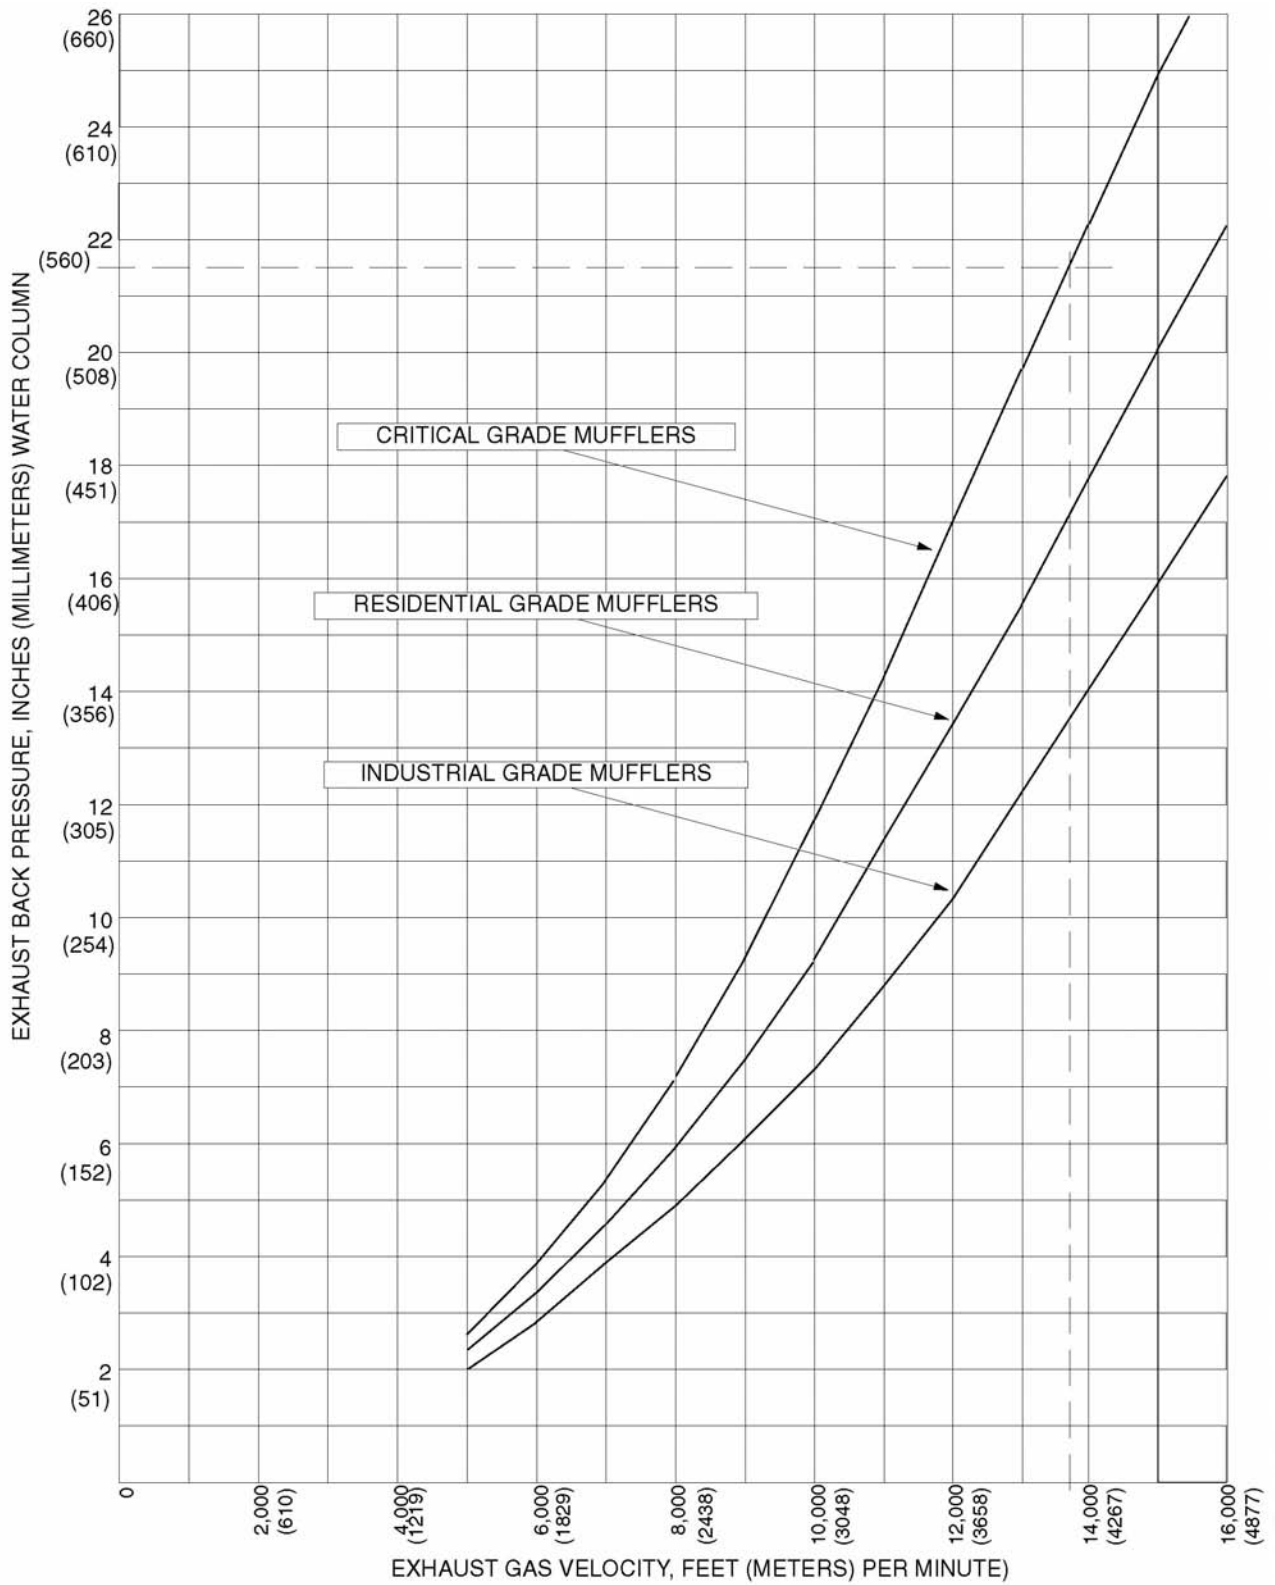

FIGURE 60. TYPICAL MUFFLER EXHAUST BACK PRESSURE VS. GAS VELOCITY
1. Determine the exhaust backpressure caused by the muffler. Figure 60 on page 132 is a graph of typical muffler exhaust backpressures. For more accurate calculations obtain data from the muffler manufacturer. To use Figure 60 on page 132:
- d. Using Figure 60 on page 132, determine the back pressure caused by this flow in the specific muffler used. In this example, the dashed lines in Figure 60 on page 132 show that the critical grade muffler will cause a back pressure of approximately 21.5 inches W.C.